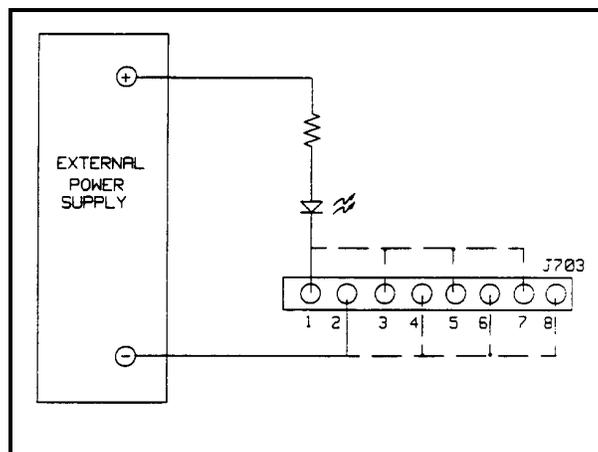

Figure 6b. RLY Test Setup
- Connect the LED, resistor, and external 5V power supply to one set of relay output (RLY) pins on J703 (Refer to Table 2 and Figure 6b), and turn on the 662x power supply.